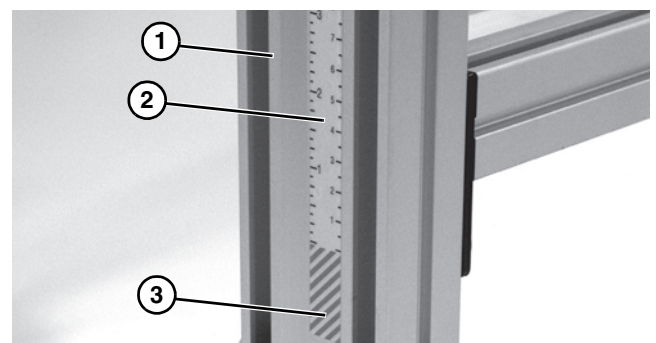

**Figure 2**
#### Typical Components (Figure 2):
1. Open standard stand hardware pack (Figure 2, item 2).